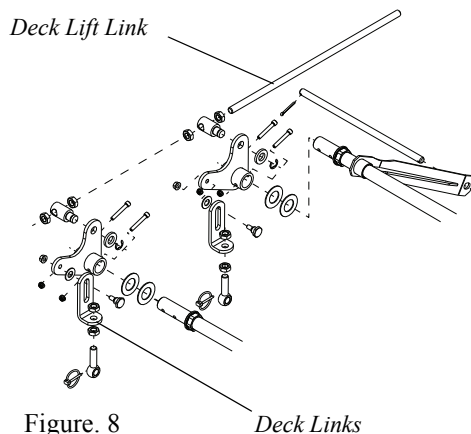

Figure. 8
- c. If the cut height is below 1-1/2" the pitch should not exceed 1/16". If the dimension at the front of the mowing deck is 1/8"-1/4" lower than the dimension at the rear of the deck on each side of the mower, do not adjust. If not, you will need to adjust the Deck Lift Link (See Figure 8). You may also need to adjust the Deck Links (See Figure 8).